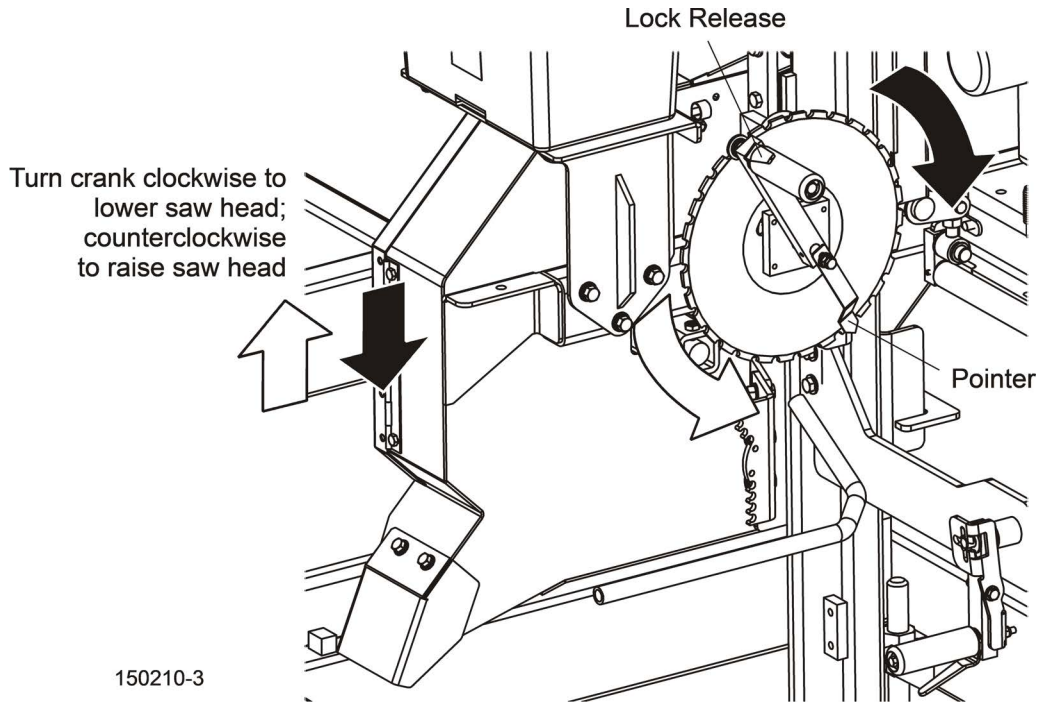

FIG. 6-4
- Use the pointer and the round up/down blade height scale for quick reference when cutting. See FIG. 6-4.